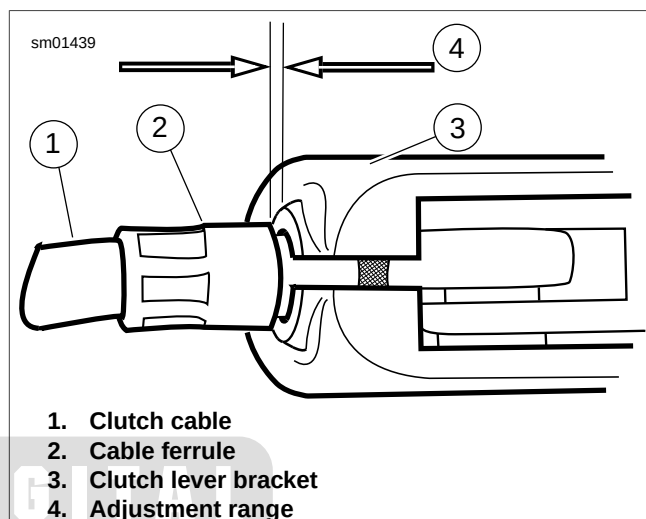

Figure 5-10. Clutch Freeplay: Adjust for 1/16-1/8 in. (1.6-3.2 mm) Gap Between Ferrule and Bracket
7. See Figure 5-10. Pull clutch cable ferrule away from clutch lever bracket to check free play. Turn cable adjuster as necessary to obtain 1/16-1/8 in. (1.6-3.2 mm) free play between end of cable ferrule and clutch lever bracket.